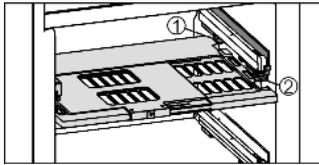

Fig. 9
- ▶ To insert the humidity control plate: Insert the cover mouldings of the plate into the rear holder Fig. 9 (1) from underneath and engage them in the holder Fig. 9 (2) at the front.